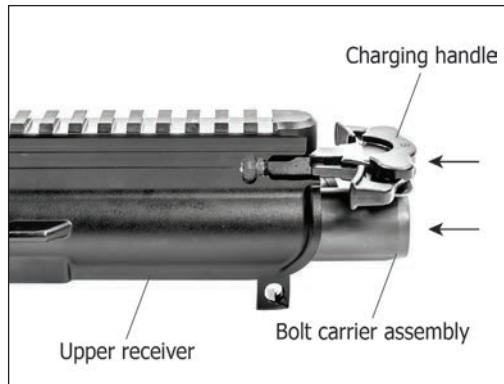

Fig. 39 – Completing installation of the bolt carrier assembly into the upper receiver
h. Push the charging handle and bolt group completely into the upper receiver until the locking lugs on the bolt head engage the locking on the barrel extension and the latch on the charging handle engages the oval locking surfaces on either the left or right-hand sides of the upper receiver. The latch is on both the left and right-hand side of the charging handle (Fig. 39).